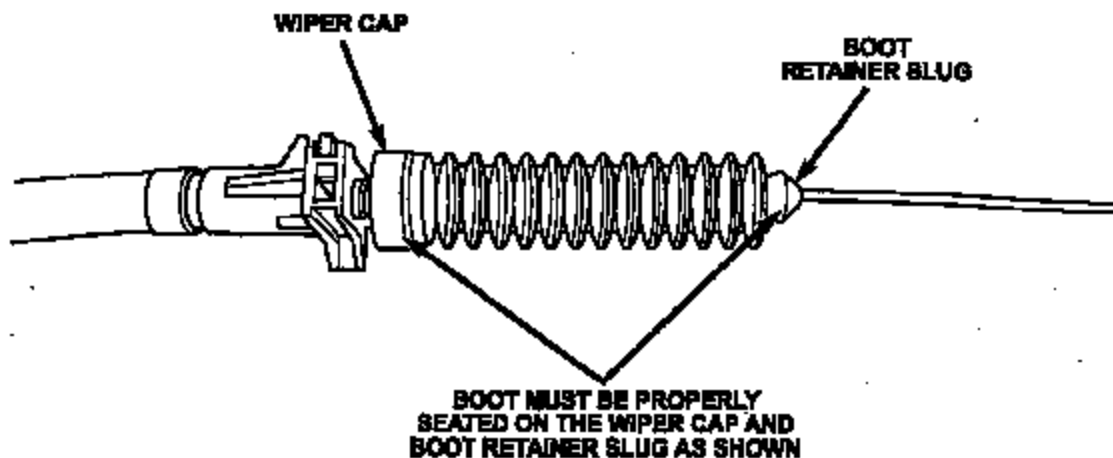

Figure 1
- If the throttle cable protective boot is properly seated at both ends as shown in Figure 1, no further action is required. Reinstall the air intake cover.